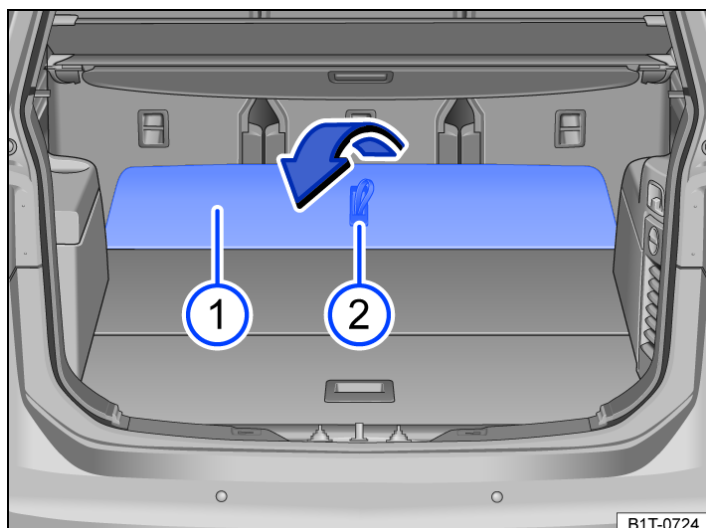

Fig. 2 In the luggage compartment: front luggage compartment floor (5-seater with variable luggage compartment floor).
- *Opening the luggage compartment floor:* fold the luggage compartment floor → *Fig. 2* ① forward as far as it will go by pulling the loop ② in the direction of the arrow.
- *Closing the luggage compartment floor:* fold the luggage compartment floor down in the direction → *Fig. 2* opposite to the arrow.